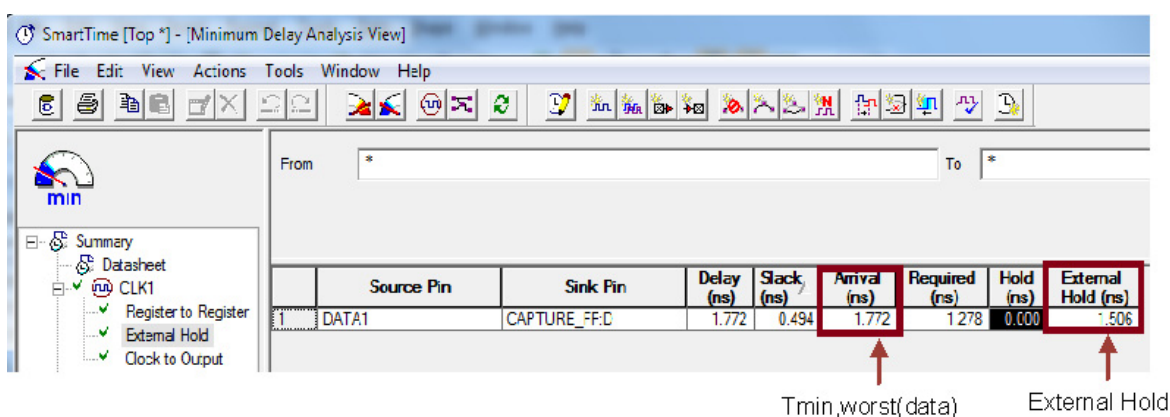

Figure 10 • SmartTime Worst Case Hold Analysis
- In minimum delay analysis view, get the external hold time, as shown in Figure 10.